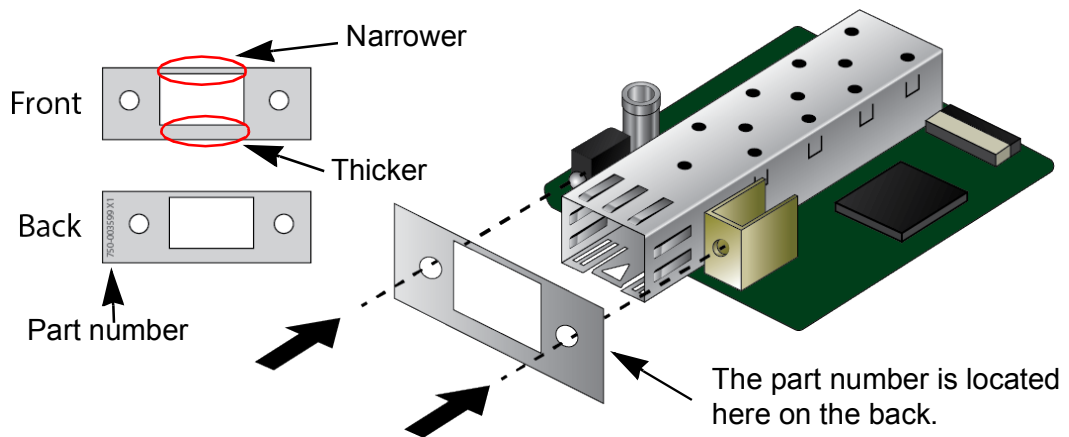

Figure 6. Orienting the Backplate to the SFP Board
- ❑ The part number is located on the right side on the back of the backplate as shown in Figure 6.
- ❑ The top side of the backplate frame is narrower than the bottom side of the frame. See Figure 6.